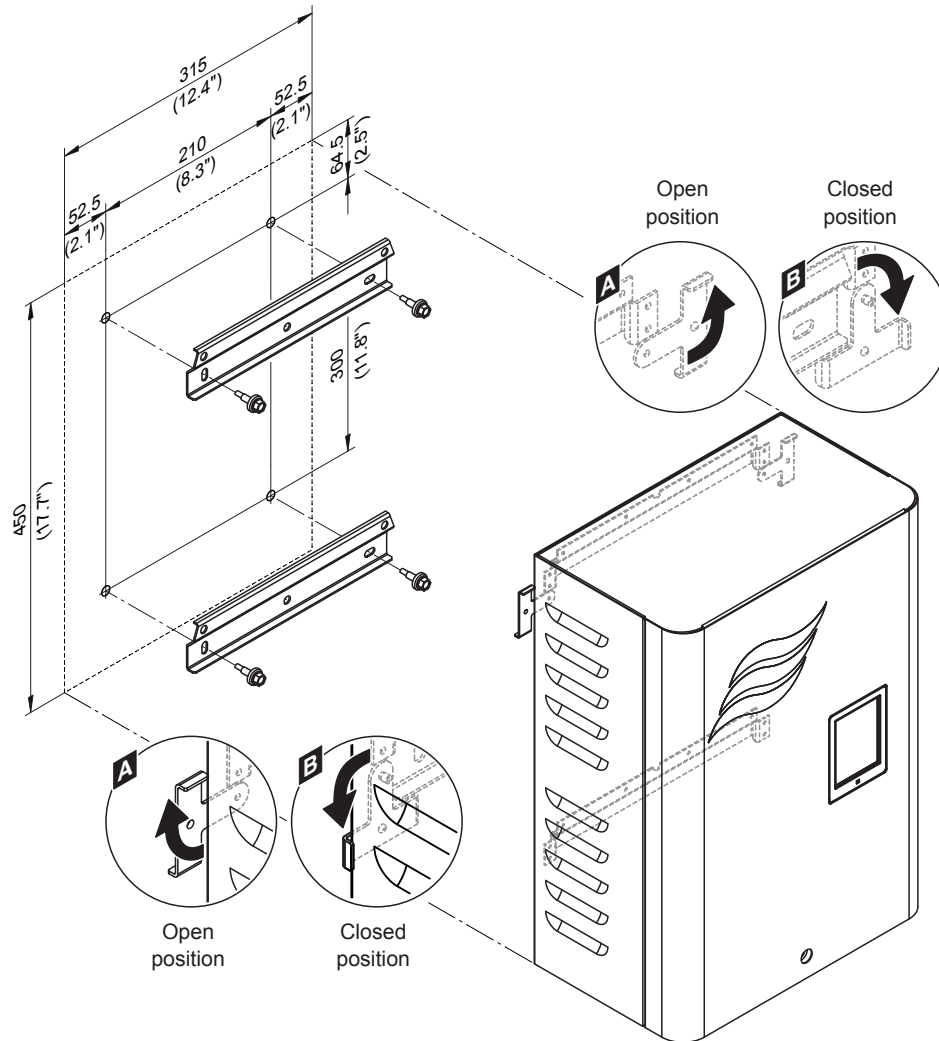

Fig. 33: Mounting the control unit of Condair ME Controls
3. Move the locking hooks on the back of the control unit to open position (see detail "A" in Fig. 33).
5. Move the locking hooks on the back of the control unit to closed position (see detail "B" in Fig. 33) in order to fix the control unit to the upper wall support.